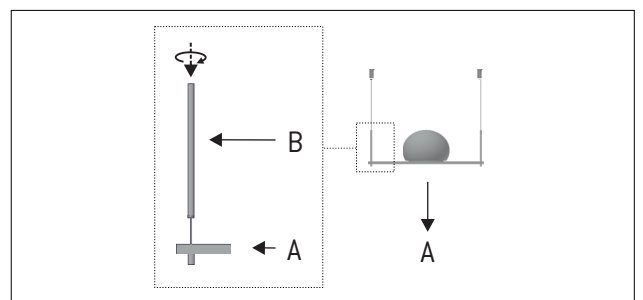

Figure 2
2 - Find the stems (B) located at both ends of the lamp and screw them to the body of the lamp (A). Figure 2.